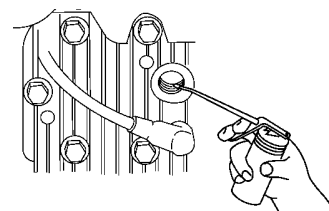

Figure 30
3. Using an oil can, squirt about one tablespoon of oil through spark plug hole (Fig. 30).